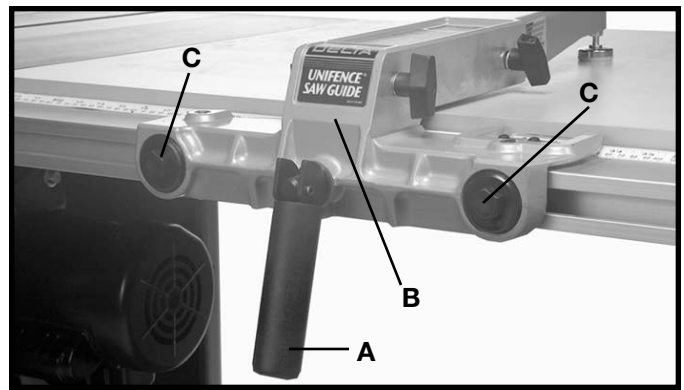
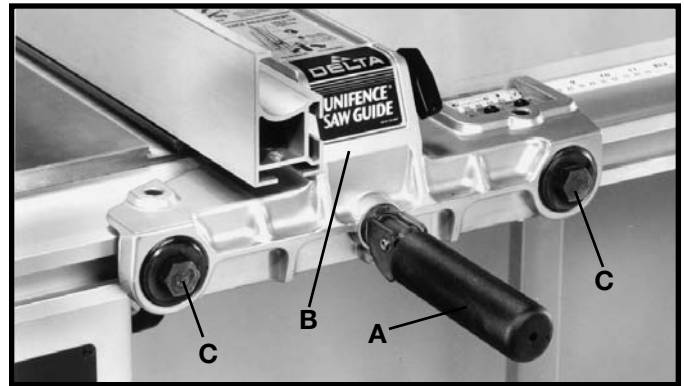

Fig. 84
Fig. 85
When the fence locking handle (A) is pushed to the down position, as shown in Fig. 84, the fence body (B) should be completely clamped to the guide rail. If the fence body (B) is not completely clamped to the guide rail when the handle (A) is in the position shown in Fig. 84, lift up on locking handle (A) Fig. 85, and slightly tighten two adjustment plugs (C) using the arbor wrench or 7/8" wrench. Adjustment plugs (C) should be tightened an equal amount. Check to see if the fence body (B) is completely fastened to the rail by pushing down on locking handle (A). Adjust further if necessary. **IMPORTANT: AFTER ADJUSTING THE CLAMPING ACTION OF THE FENCE LOCKING HANDLE, CHECK TO SEE IF THE FENCE IS PARALLEL TO THE MITER GAUGE SLOT AND ADJUST IF NECESSARY.**